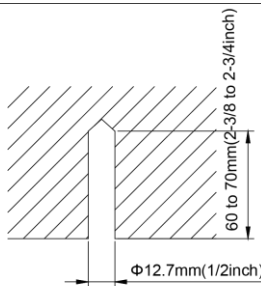

Fig4.4
- (2). Install the bolts to the ceiling at a place strong enough to hang the unit. Mark the bolt positions from the installation template. With a concrete drill, drill for 12.7 mm (1/2") diameter holes. (Fig. 4.4)